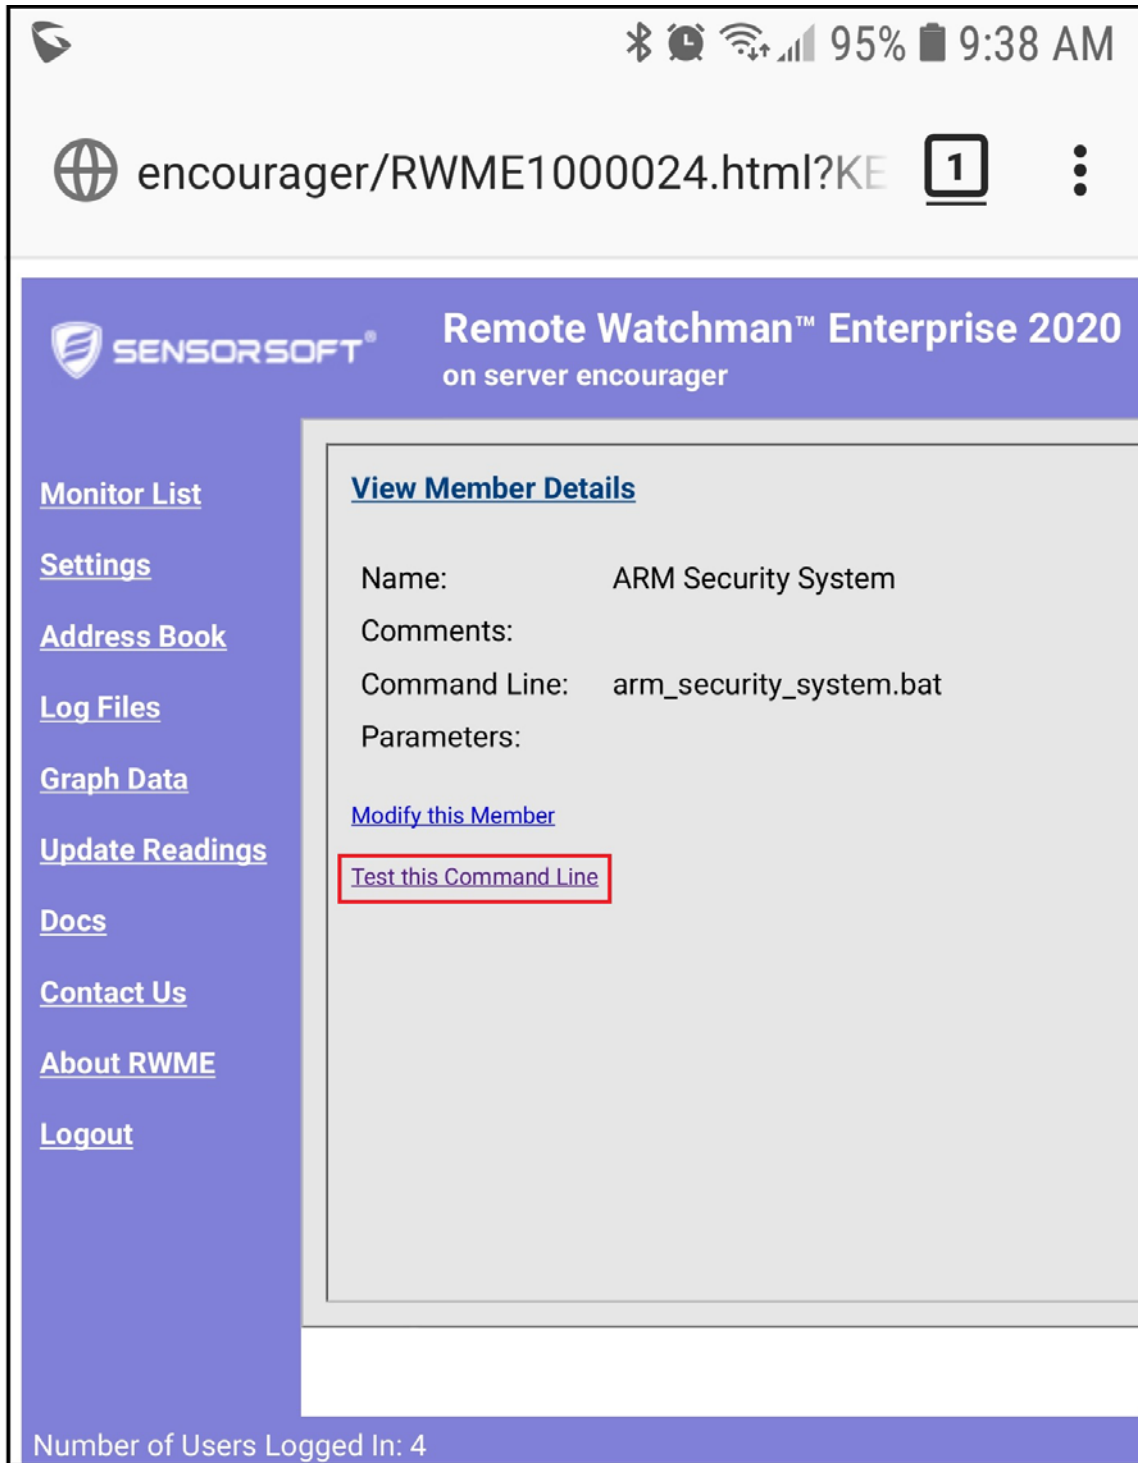

Figure 18: Smart phone screen with Test this Command Line link shown
7. Hold your finger over the link Test this Command Line as in Figure 18 until it offers an option to copy the link/address.